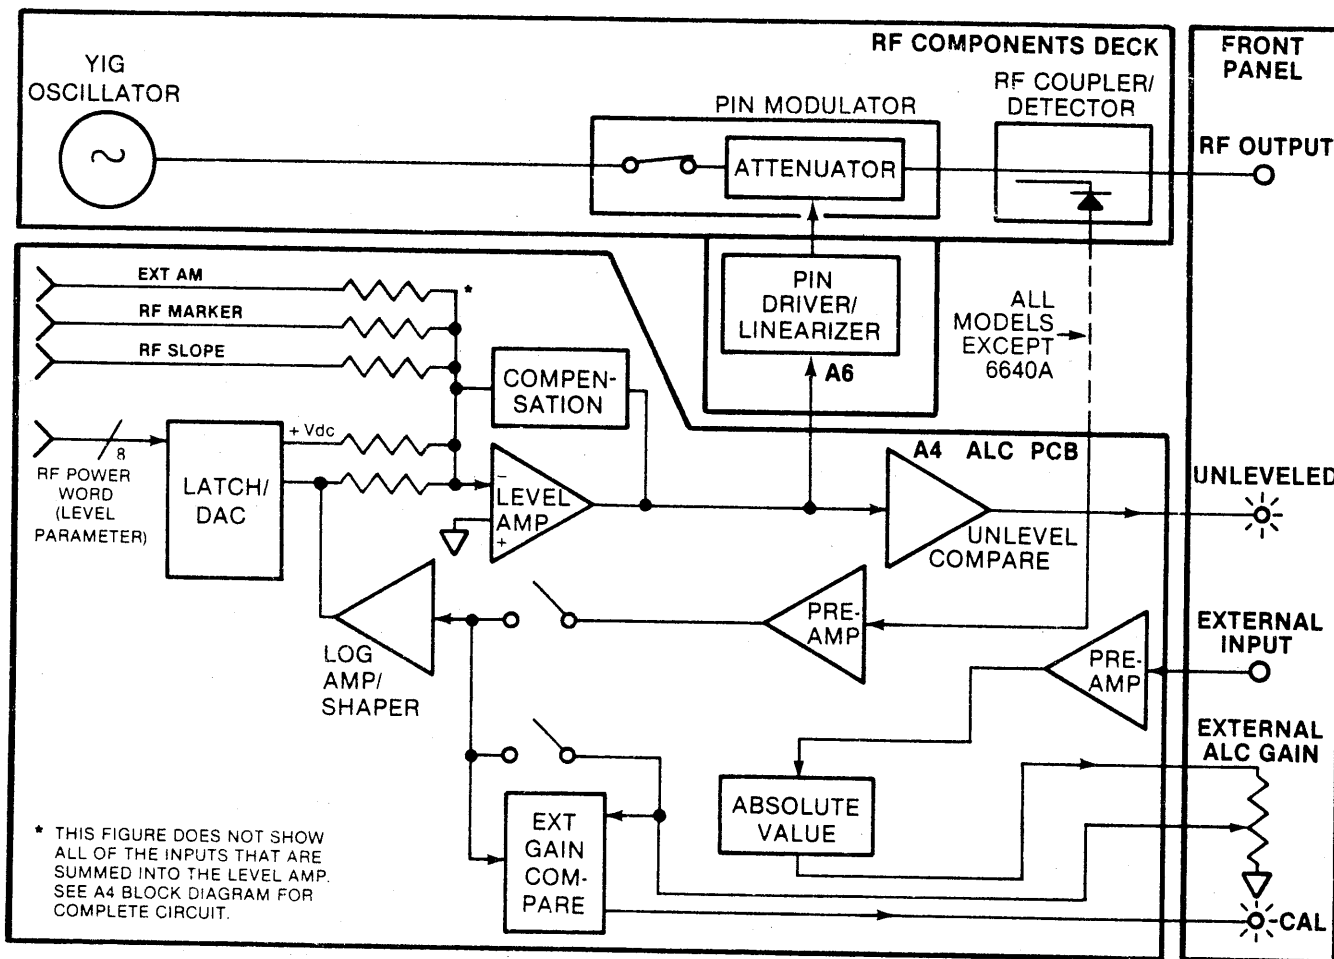

Figure 7-42. Sweep Generator Overall Leveling Loop
The sweep generator ALC loop (Figure 7-42) consists of the following circuits and components:
As shown in Figure 7-42, the output from the RF Oscillator is applied to the RF Coupler/Detector via the PIN Switch. A sample of the RF power signal, attenuated by approximately 16 dB, is coupled to the RF detector. If internal leveling has been selected, the detector output signal is applied
- b. Level-Dip Logic Circuit. This circuit (Q2) causes the PIN Switch Attenuator (Figure 7-42) to go to maximum attenuation ("dip" RF power) when any of the following occurs:
- g. Sq Wave Sample/Hold Logic Circuit. This circuit (Q3, U2C, U1D, U23A, U23B, U2F, U23C, U23D, U20B) provides for square wave modulation of the RF output signal, at rates up to 30 kHz. The inputs to this circuit are the **EXT SQ WAVE IN** signal from the rear panel connector and the **L RF OFF DURING RETRACE** control line from NAND gate U1A. When the **EXT SQ WAVE IN** signal goes negative or when the **L RF OFF DURING RETRACE** line goes TRUE, the **L PIN SW OFF** line goes TRUE and opens the PIN Switch (Figure 7-42). When open, the PIN Switch attenuates the RF output signal by ≈ 40 dB. When the **EXT SQ WAVE IN** signal again goes positive (or **L RF OFF DURING RETRACE** goes FALSE), the **L PIN SW OFF** line goes FALSE and closes the PIN switch. The ALC loop cannot respond fast enough to track the changes in RF output during square-wave modulation. Therefore, a sample-and-hold network is used to open the ALC loop and hold the previous PIN switch drive current when modulation is applied.
Circuit. This U23B, U2F, s for square output signal, inputs to this VE IN signal or and the L control line the EXT SQ or when the CE line goes e goes TRUE figure 7-42). tennuates the . When the n goes posi- RETRACE FF line goes switch. The it enough to tput during herefore, a used to open previous PIN odulation is